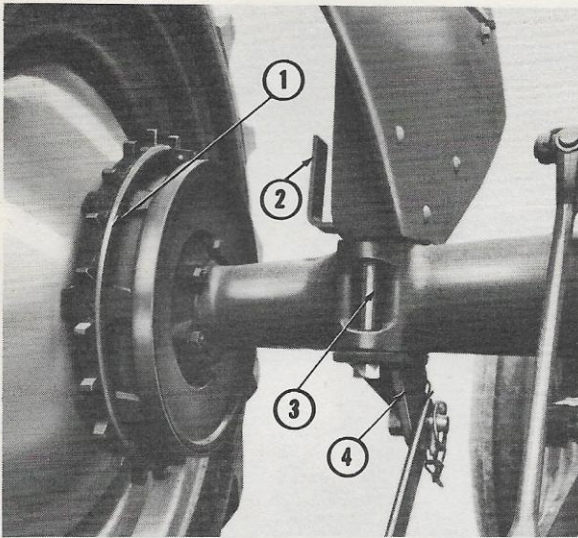

Figure 4
2. Attach the drive sprocket (1) to the tractor left rear brake drum as shown in Figure 4, and secure with the four bolts and nuts provided.
- a. Remove the rear bolt (3), Figure 4, holding the tractor left fender and attach the throw-out rod bracket (2), replace the bolt, leaving the nut off at this time.
- b. Remove the nut from the left fender front bolt and attach the stabilizer bracket (4) under the axle as shown in Figure 4 and secure with nuts.